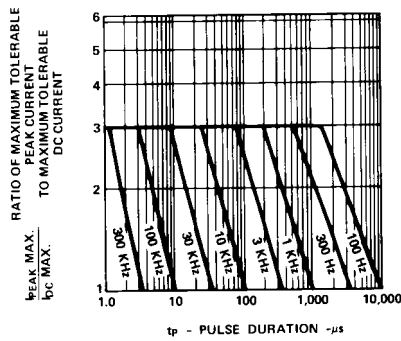

Figure 5. Maximum Tolerable Peak Current vs. Pulse Duration. ( $I_{DC}$  MAX as per MAX Ratings)
- See Figure 5 (HER/Orange), 10 (Yellow), or 15 (Green/Emerald Green) to establish pulsed operating conditions.